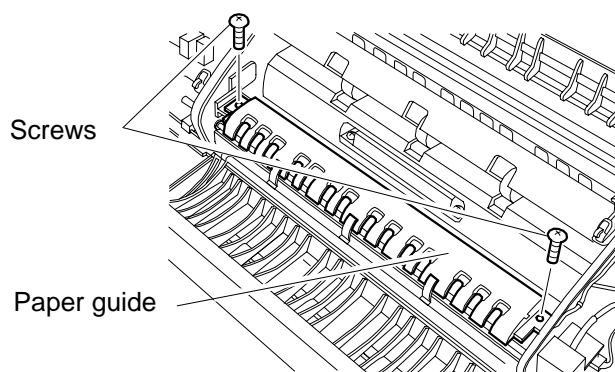

Fig. 5
- 4) Open the registration guide, and remove the 2 screws and then the paper guide. (Fig. 5)